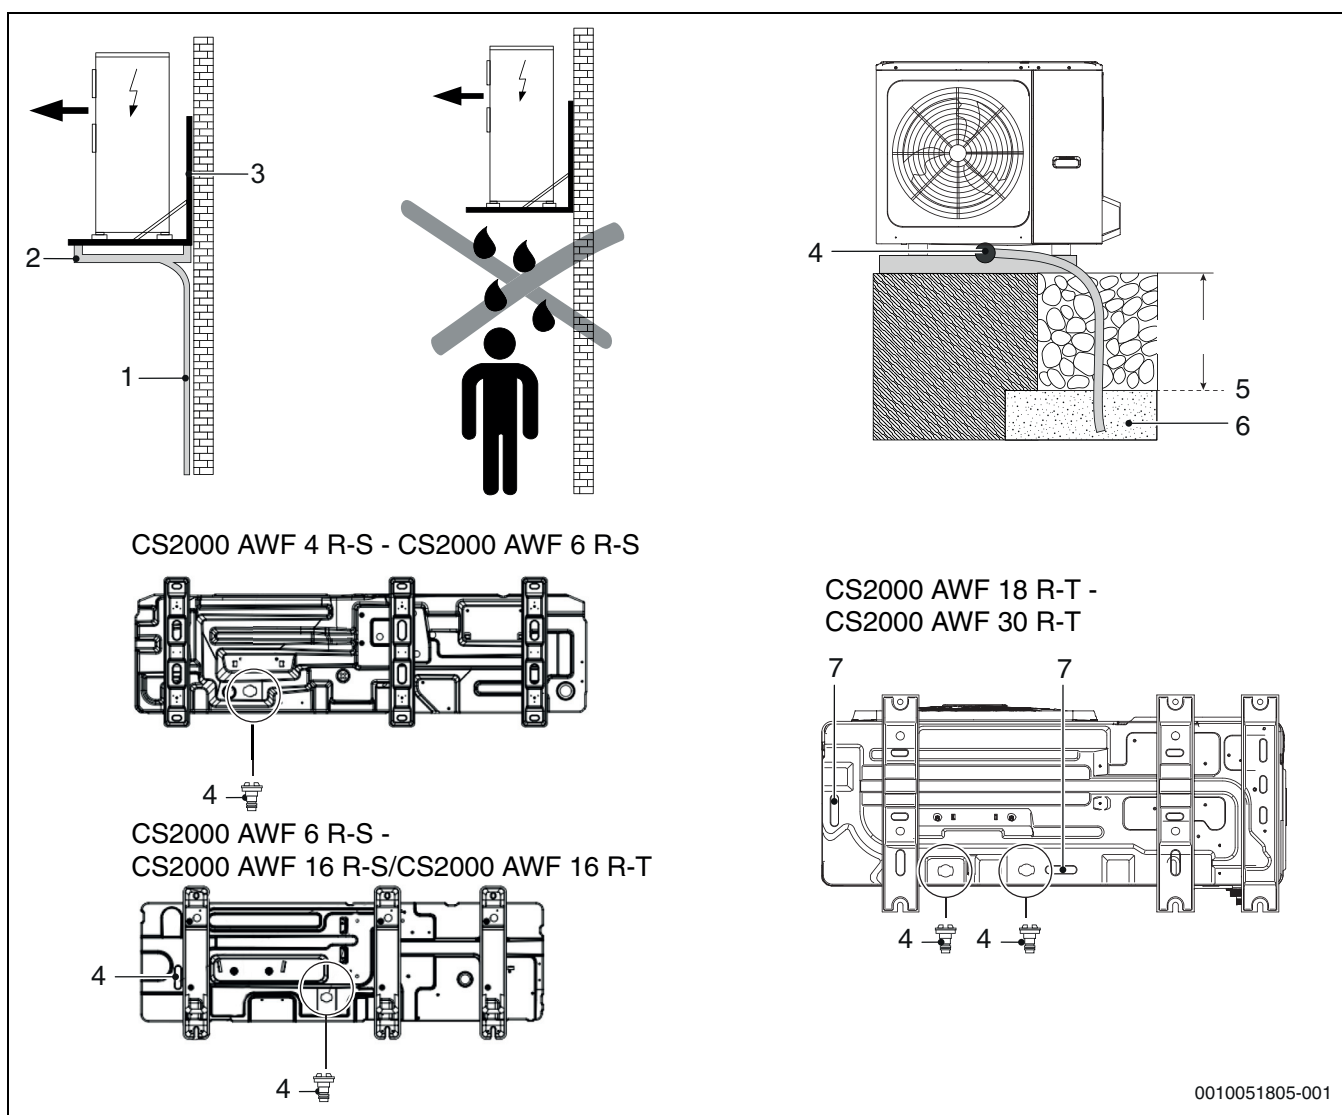

Fig. 49 Condensate drain
- ▶ Install the pipe below the frost line (→ Figure 49, [5]).